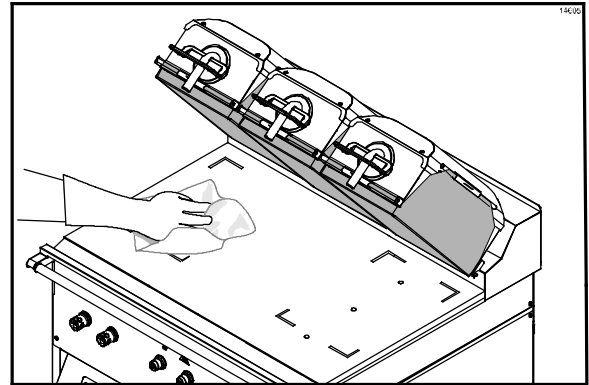

Figure 69
41. Wipe the lower grill surface with a clean, sanitizer-soaked grill cloth. Repeat until surface is clean. (See Figure 69.)